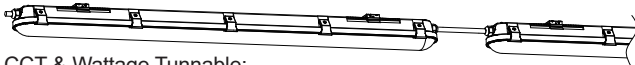

Figure 4
- Step4. If the user needs to connect the products together, please increase the connection line according to your own needs (Figure 4).(Product connection: 20W lamps can be connected to maximum 30pcs,25W 25PCS,40W 15pcs, and 50W 12pcs).